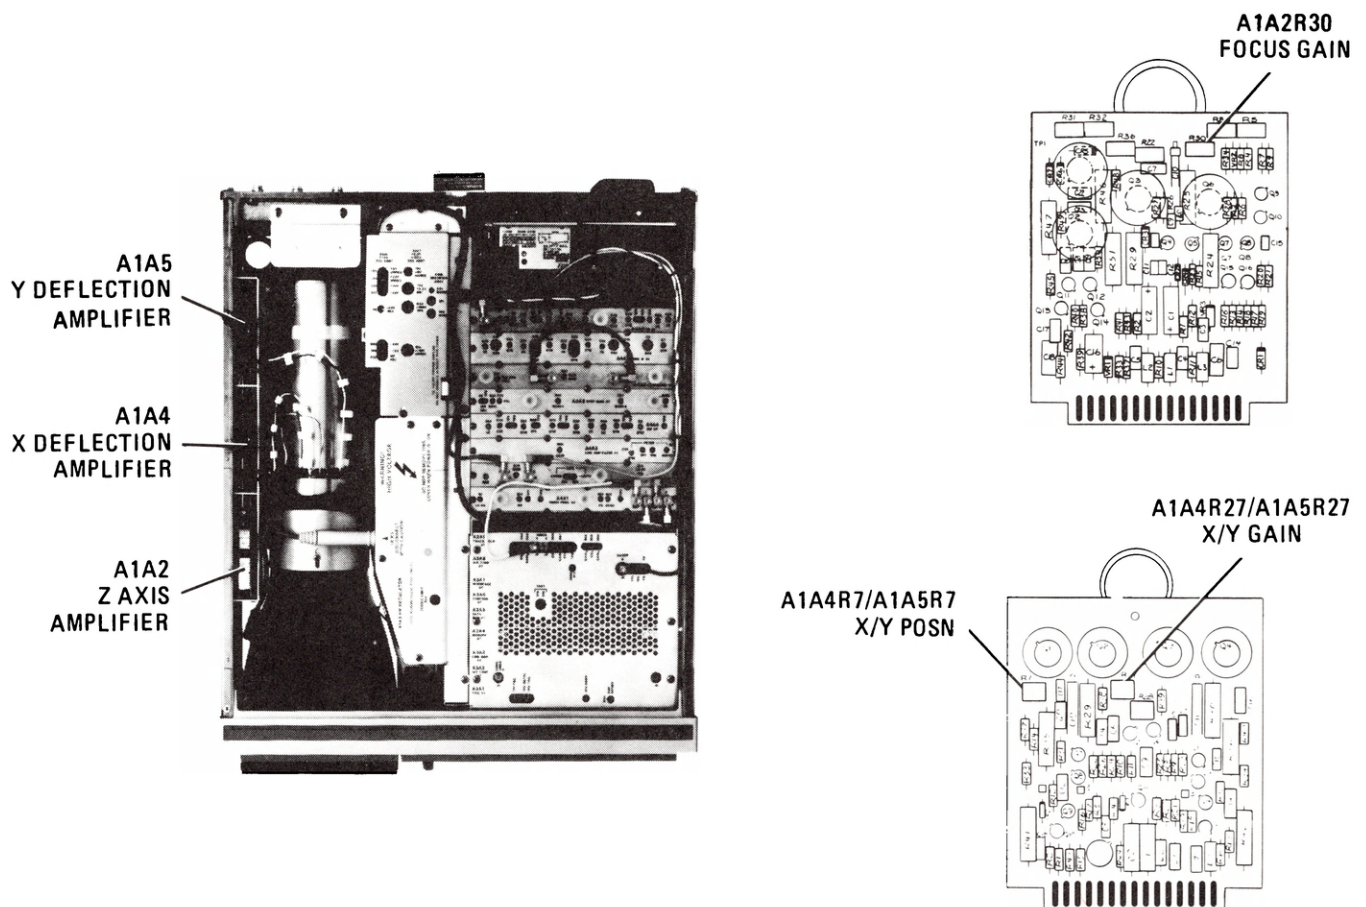

Figure 5-18. Location of Final Display Adjustments
7. Adjust A1A2R30 FOCUS GAIN for a larger peak-to-peak deviation in pulse on oscilloscope display. Refer to Figure 5-18 for location of adjustment.
12. Adjust A1A4R27 X GAIN, A1A4R7 X POSN, A1A5R27 Y GAIN, and A1A5R7 Y POSN for optimum rectangular display of graticule on CRT. Refer to Figure 5-18 for location of adjustments.